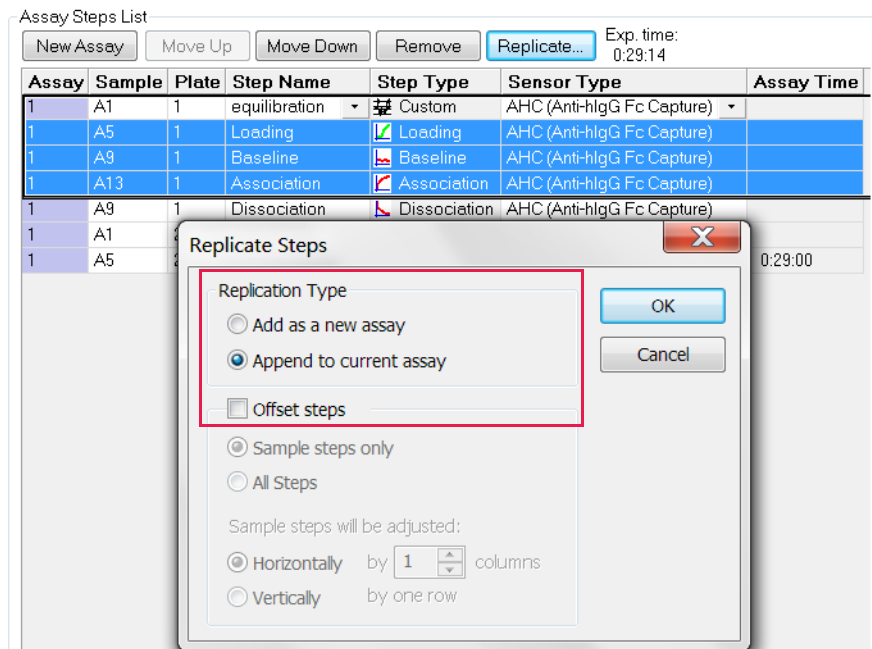

Figure 10-45: Replicating Assay Steps by Appending
- In the **Assay Steps List**, select the step(s) to copy and click **Replicate** (for example, in Figure 10-45, step rows 1-4 are selected).
- In the **Replicate Steps** dialog box (see Figure 10-45), click the **Append to current assay** option.